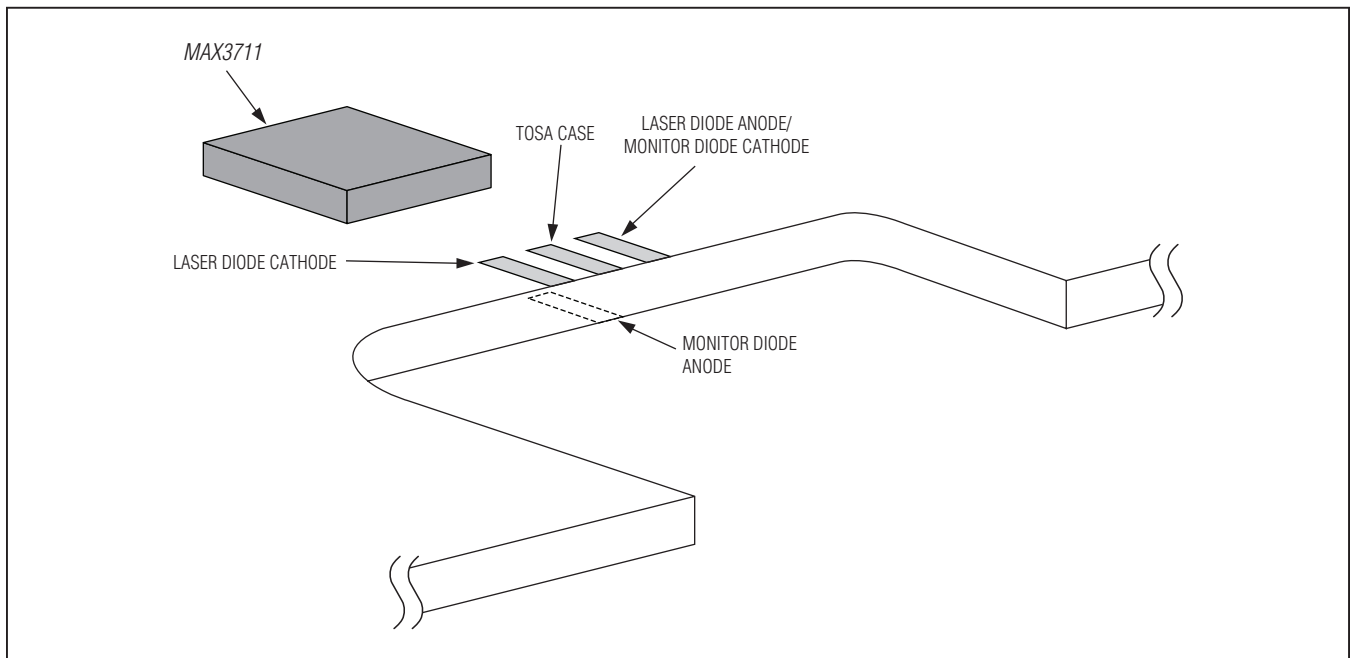

Figure 1. TOSA Connection
- 1) Solder a laser to connection D5. See Figure 1 for more information about the laser connection.